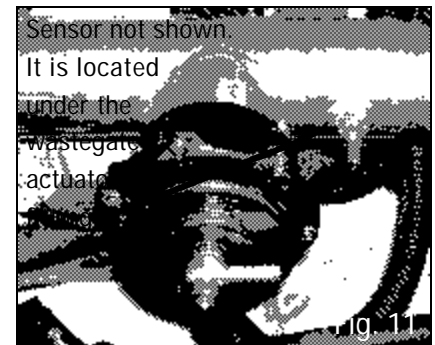

Fig. 11
6. Install the Blow-Off Valve onto the intake manifold inlet pipe. Make sure the O-Ring is properly seated on the Blow-Off Valve flange. Install the Blow-Off Valve and V-Band and tighten the V-Band. Install the supplied banjo fitting onto the Blow-Off Valve using the supplied sealing washers. Install a 1/4" barb to 1/8" NPT fitting (for wastegate actuator hose) into the hole next to the blow-off valve on the intake manifold inlet pipe (See Fig. 10). Install the CAT (Charge Air Temp) sensor in to the threaded fitting under the wastegate fitting on the intake manifold inlet pipe (See Fig. 11). Use thread sealant on the threads of the sensor.